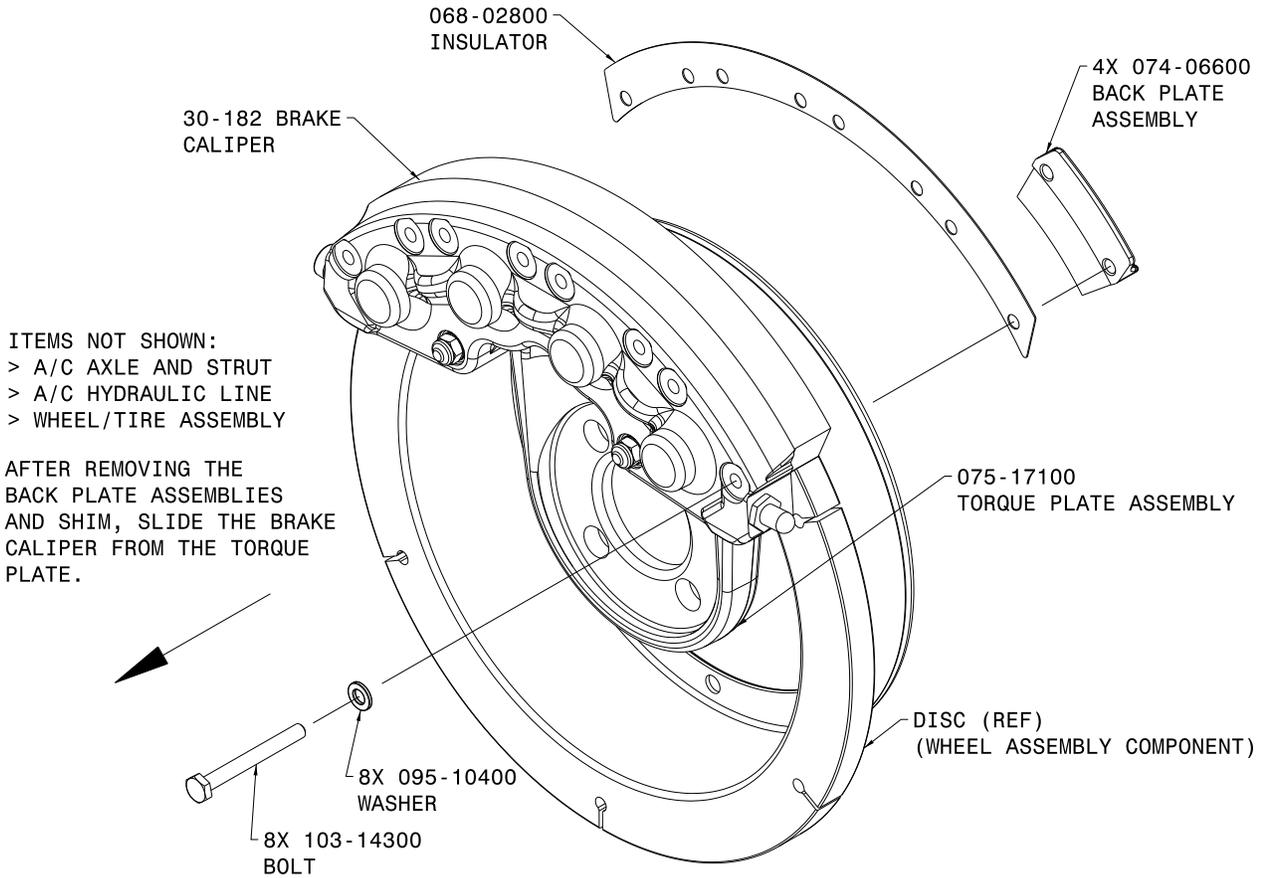

Figure 2 Remove the 4X back plate assembly
- (1) Refer to Figure 2. Remove and retain the existing 4X back plate assemblies (074-06600) by loosening and removing the 8X bolts (103-14300) and washers (095-10400). Remove and retain the shim (068-02800).